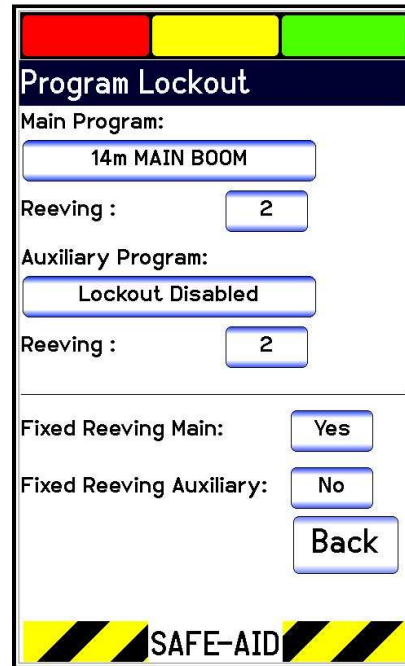

Figure 26
5. Select **Yes** - the complete list of programs for the relative winch will be displayed. Select the required program followed by the Enter button e.g. 14m MAIN BOOM (figure 26) Repeat this for the second winch if required.